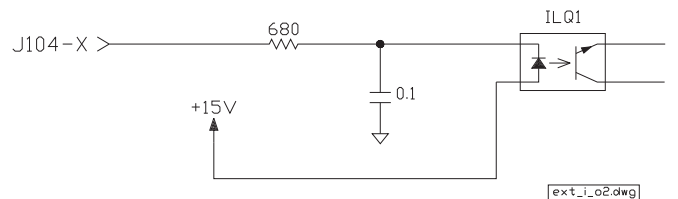

Figure 2-7
**Figure 2-7:** This is an extended/remote control, optically isolated input to the Transmitter. To initiate the described action, a momentary (i.e. >100mSec) ground (0V) must be applied to the “x” terminal. The ground sink must sustain 15 VDC at 40mA.